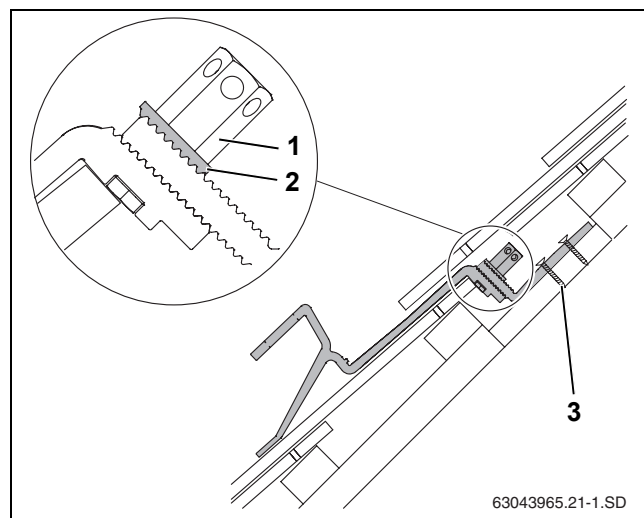

Fig. 20 Assembled roof hook. View of section with trimmed lower part of roof hook
The serrated washer (Fig. 20, [2]) must grip the serrations on the lower part of the roof hook.
- Tighten the long hexagon nut (Fig. 20, [1]). To do so, insert the size 5 Allen key into the hexagon nut and turn.
- Using suitable screws, fasten the lower part of the roof hook into the first (Fig. 20, [3]) and second holes (at least) of the joist or board.